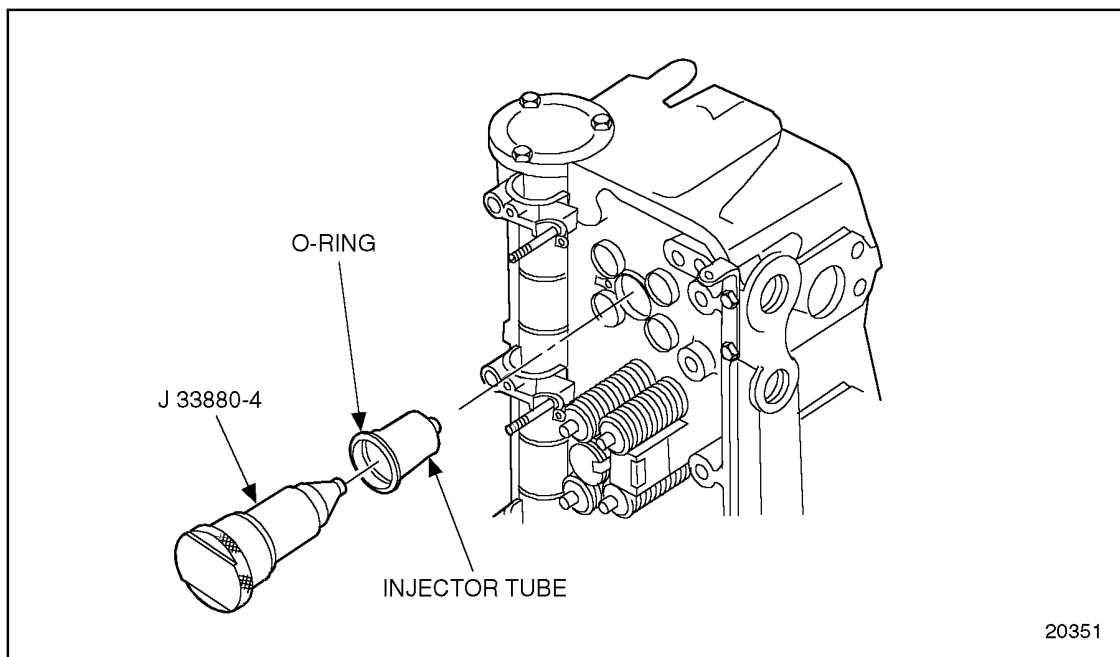

Figure 2-16 Installing Injector Tube
3. Install the injector tube on the injector tube installation/removal tool, J 33880-4 part of J 33880. See Figure 2-16.